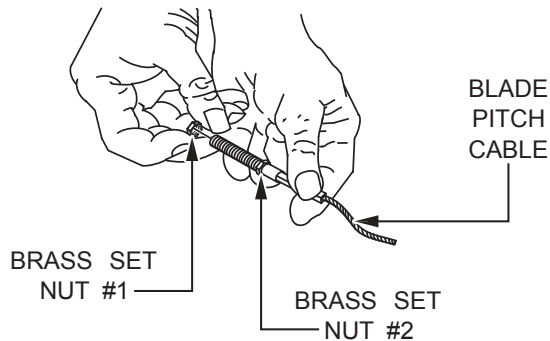

Figure 14. Blade Pitch Cable
- Remove brass set nut #1 from the end of the blade pitch cable (Figure 14).
- Thread brass set nut #2 as far as possible toward the blade pitch cable (Figure 14).